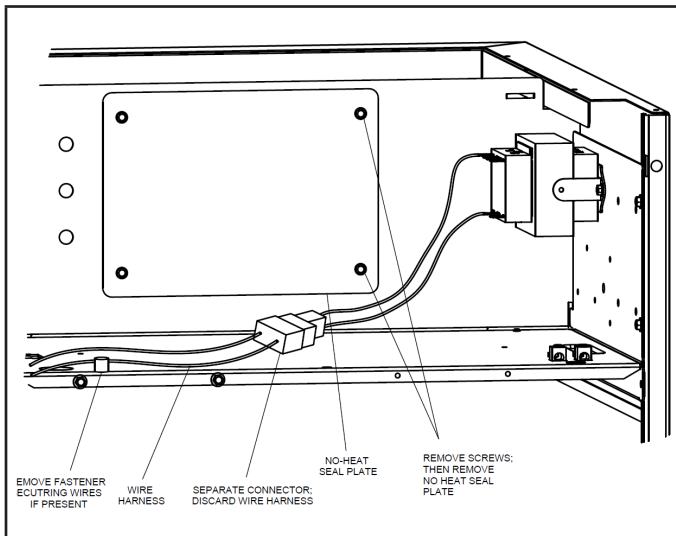

FIGURE 5. Prepare to Install Heat Element
- 3 - Disconnect any existing field supply wires and pull them out of the air handler. Disconnect and remove wiring harness and fastener (see FIGURE 5). If not removed, these items will prevent the heat section's base from resting properly in the compartment.
- 4 - Remove the no-heat seal plate in the air handler frame (FIGURE 5).